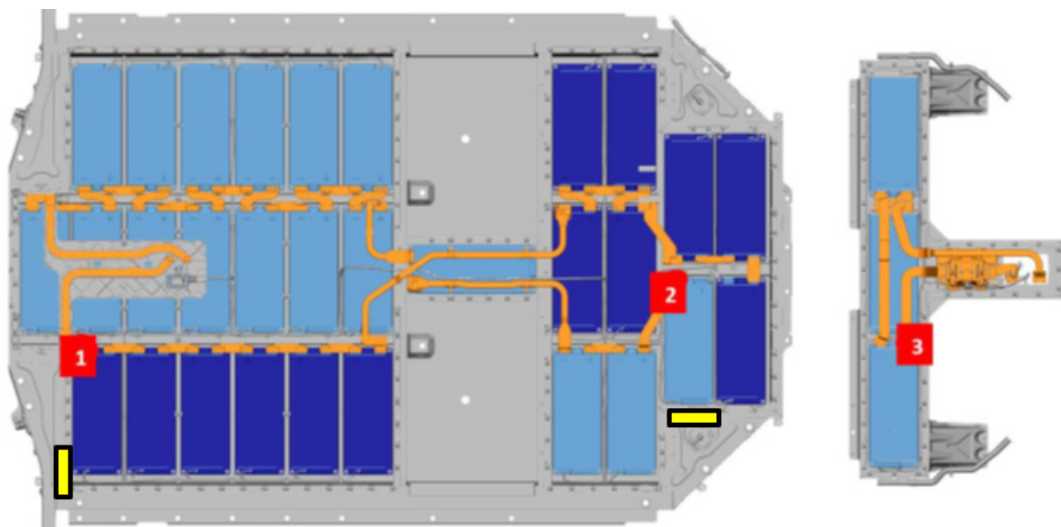

Figure 2 - 33-module HV Battery measurement points
DST Procedure for 33-module Taycan Battery Pack (Figure 2)
- Repair scopes in only the upper "T" section require an initial DST (in addition to the points in figure 2) at the mid-pack fuse as shown in step 3.9.3 of Safety test after assembly work on the high-voltage battery with 33 modules in WM 270803A5. If the DST fails, proceed with removing the lower lid and perform DSTs at points 1, 2, and 3 as identified below.
- The yellow boxes in Figure 2 designate the section of laser clean surface (silver stripe) to contact using the negative probe to ground the dielectric strength tester. This method ensures consistency in testing.